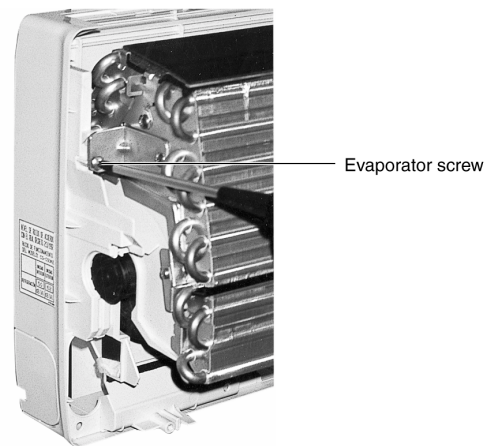

Fig. 6
2. Remove the evaporator screw. (Fig. 6)